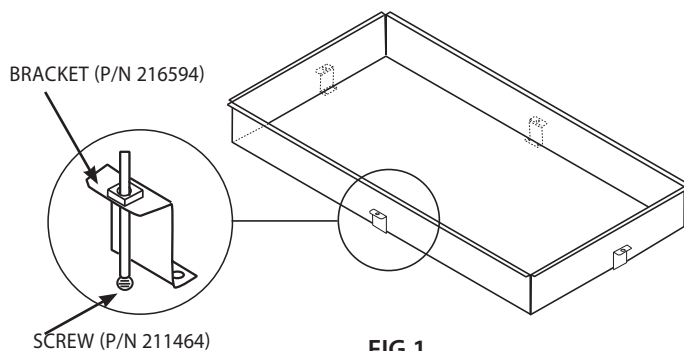

FIG.1
- Step 5: Square the cooktop to the cutout and install the (4) retaining brackets onto the 8 holes for CDU/CDV/CDV-365 and (2) retaining brackets onto 4 holes for CDU/CDV/CDV-304 located at the bottom of the unit (See Figure 1 below). If the retaining brackets are not installed, the cooktop will not pull down to countertop.